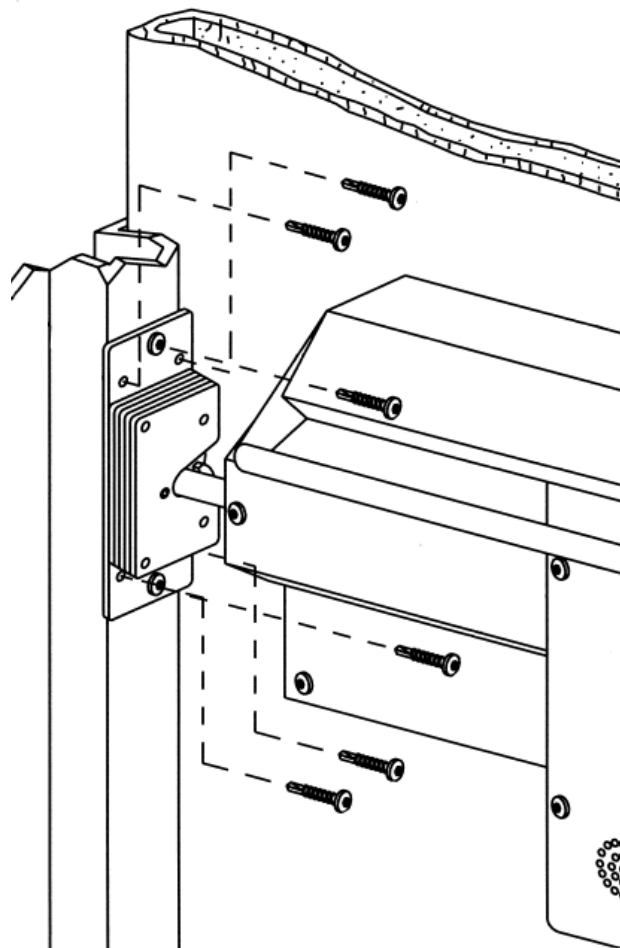

FIGURE 6
8. With the door closed, slide the latch over the lock bolt rod, making sure it latches. Mark around the outside of the latch and open the door. Remove the paper backing from the adhesive tape on the back of the latch and temporarily affix it to the jamb stop - aligning with the marks. Fasten the latch to the jamb stop with two (2) self-drilling torx screws through the two (2) slotted holes in the latch. (See Figure 6) Verify that the lock bolt fully latches into the latch and extends fully. If necessary, make additional adjustments by loosening the two (2) self-drilling torx screws and moving the latch. Make sure the door closes and locks smoothly and securely. Tighten the two (2) self-drilling torx screws. Once you are satisfied with the adjustments, secure the latch to the jamb stop with the remaining four (4) self-drilling torx screws.
1008-01	Latch Assembly Packaged (Shown in Figure 6)